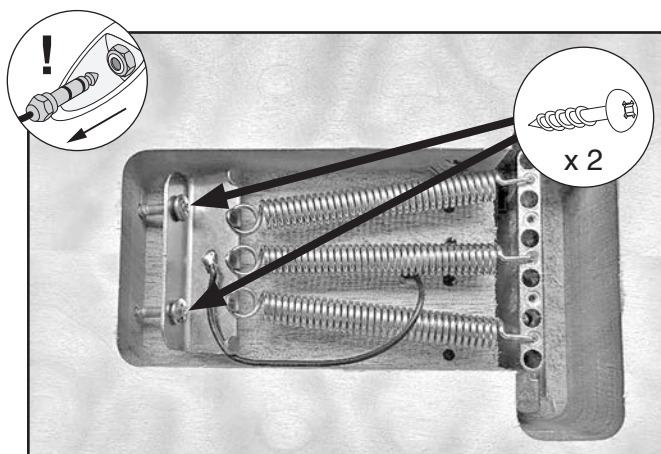

Figure 32. Location of tremolo springs.
3. Locate (2) M4 x 32 wood screws securing spring hanger (see **Figure 32**).